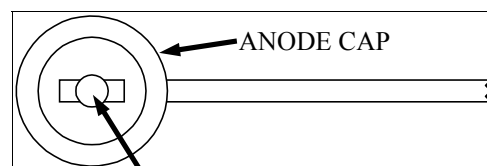

Figure 4
7. Locate PP1 and place a jumper across pins 1 and 2. See **Figure 4**.